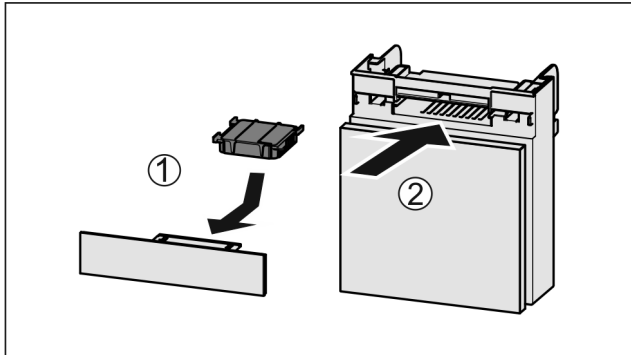

Fig. 49
- ▶ Insert the carbon filter as shown in the diagram Fig. 49 (1).
- ▶ Push the compartment in Fig. 49 (2).